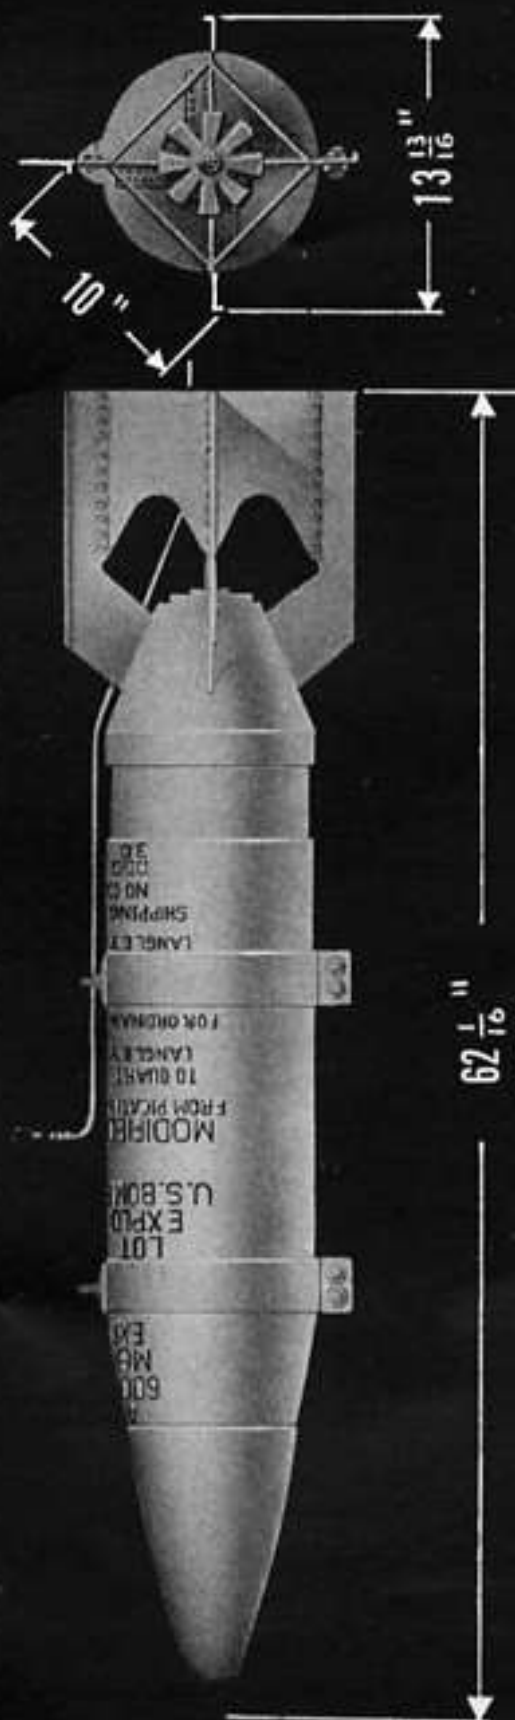

Figure 100. Bomb, A.P., 600-lb., M62.
85. *BOMB, A.P., 600-LB., M62. a. Data.* BOMB, A.P., 600-lb., M62, is a modified artillery shell type of bomb. (See fig. 100.) As released, the bomb is 62.1 inches long and weighs 634 pounds. The bomb body is 47 inches in length and 10 inches in diameter. It weighs 606 pounds of which 33.6 pounds, 5.5 percent of the complete round, is Explosive D.